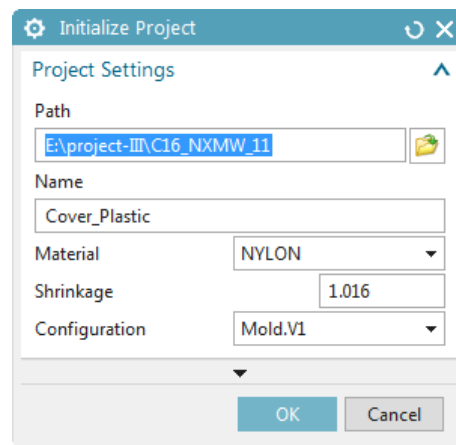

Figure 16-91 The Initialize Project dialog box
2. Choose the **Initialize Project** tool from the **Mold Wizard** tab; the **Initialize Project** dialog box is displayed, as shown in Figure 16-91.